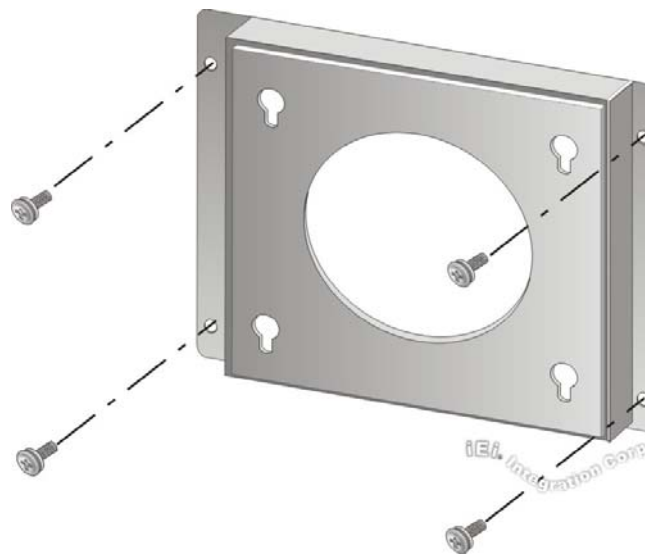

Figure 3-19: Wall-mounting Bracket
Step 5: Secure the mounting bracket to the wall by inserting the retention screws into the four pilot holes and tightening them (**Figure 3-19**).